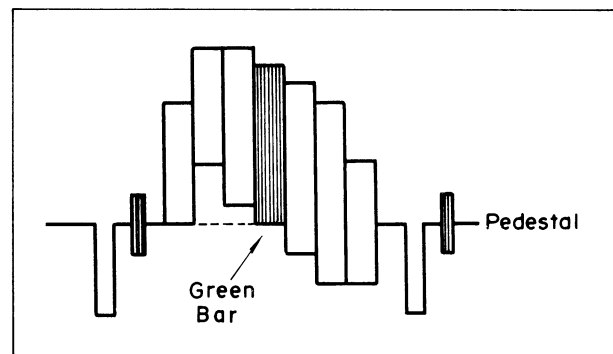

Fig. 5-41. Output waveform
2. Adjust R135 (P.B. Color Level) at that time so that the green color bar is positioned at the same level as the pedestal position as shown in Fig. 5-41.